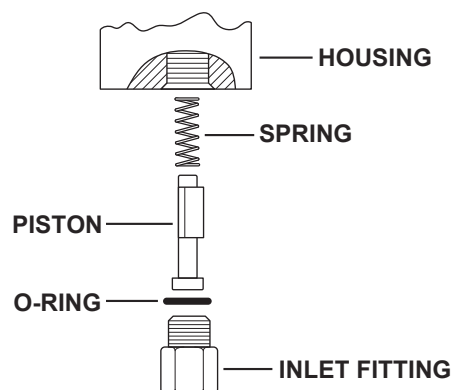

Figure 6. Switch Timer Controller
1. Remove unit from the system and disassemble as shown (Figure 6).